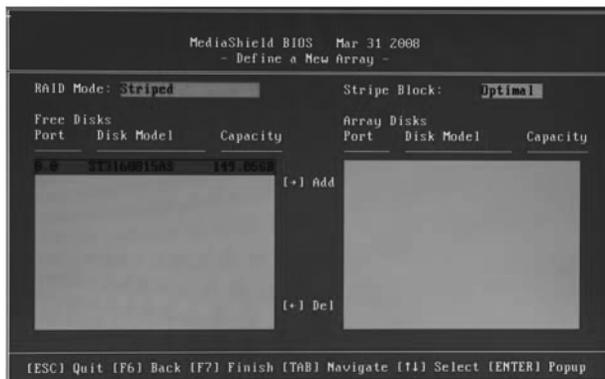

Figura 1.7 - MediaShield BIOS
- A tela NVIDIA RAID Utility—Define a New Array aparece (figura 1.7).